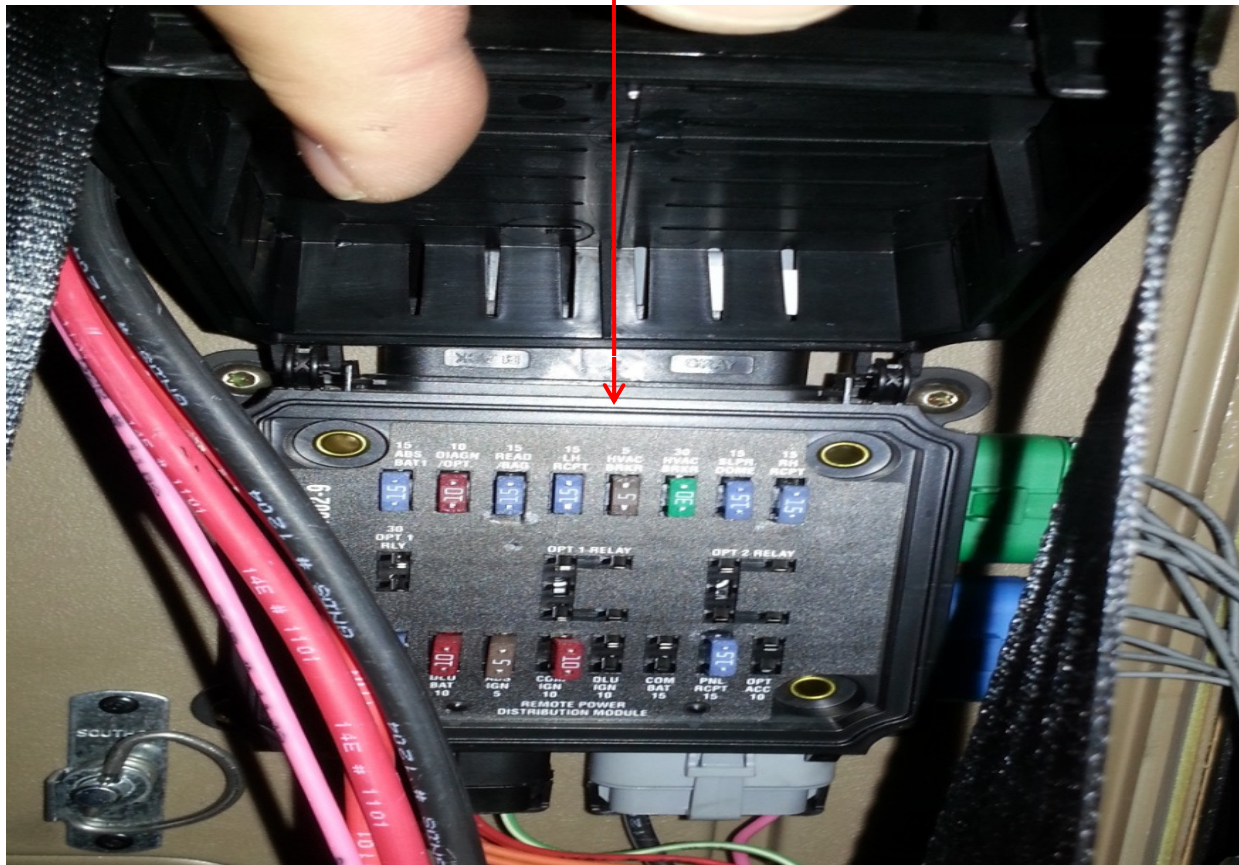

Figure 3
8. Installing fuses for power”10 AMP” and ignition”5 AMP”. Fuse panel is located on “B” pillar access panel door “Refer to Figure 3 “.